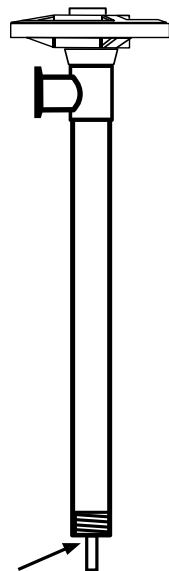

Figure 2
5. Remove the Pump Housing (see Figure 2).